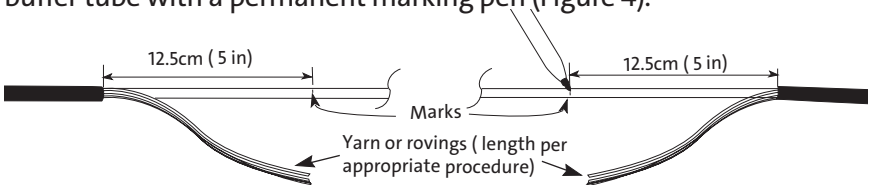

Figure 4
4.5 Place a mark 12.5 cm (5 in) (or as required for the terminal you are installing) from the end of each side of the exposed section of buffer tube with a permanent marking pen (Figure 4).